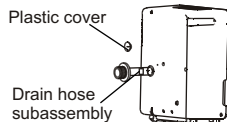
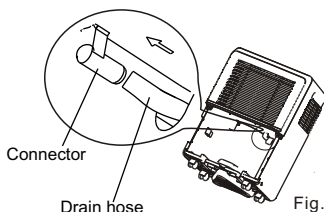

Fig.10
Fig.11
- Remove the plastic cover from the back drain outlet of the unit and set aside and remove bucket, then insert the drain hose through the drain outlet of the unit and securely press it into the connector on the front of the unit. (See Fig.10 and Fig.11)